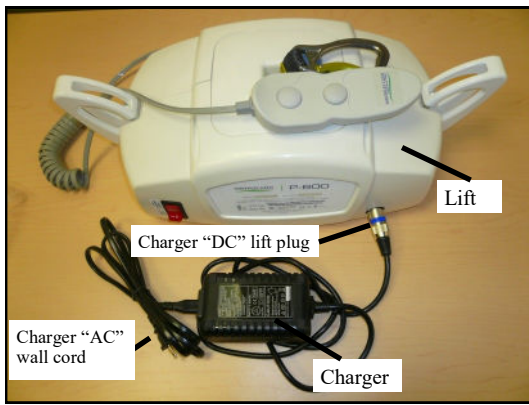

Figure 14A - **P-600** lift and charger set on a secure table top or counter for charging.
Step 1) Familiarize yourself with the basic components of the charging system. Refer to figures 14A and 14B.